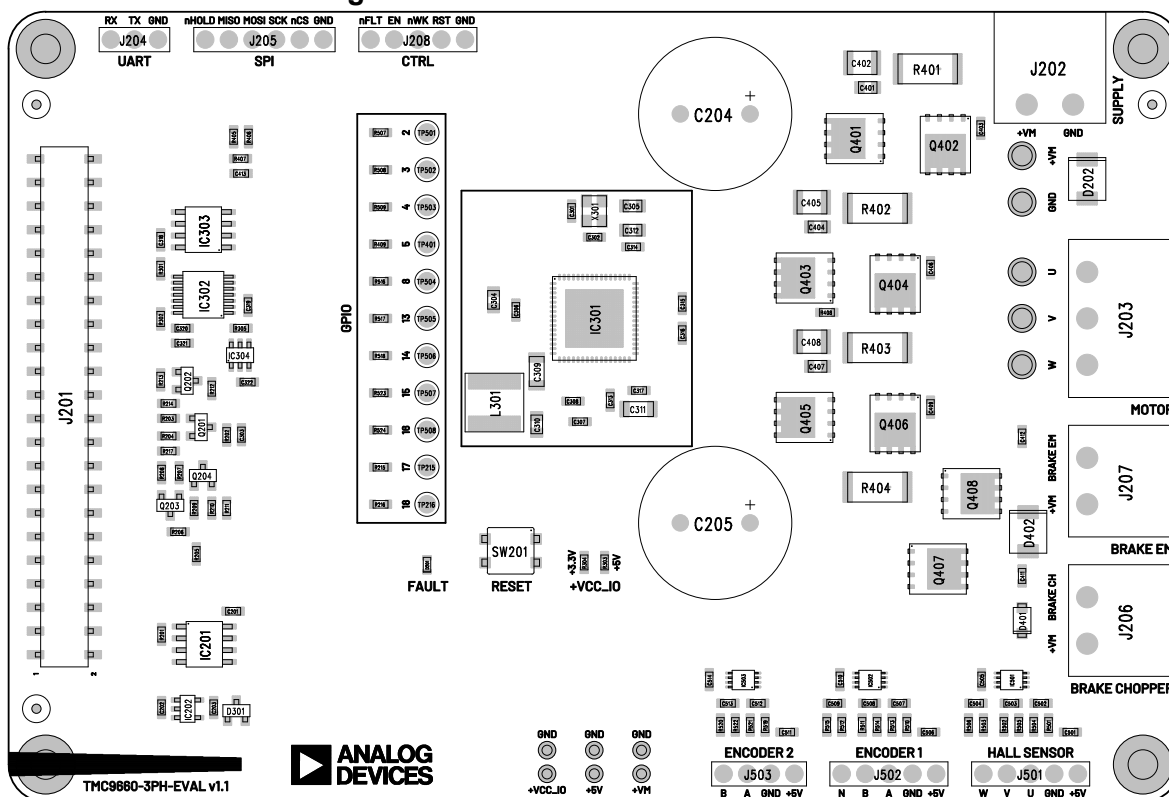

Figure 5. TMC9660-3PH-EVAL Component Placement and Silkscreen
2. Plug the selected motor to the Connector J203, labeled as *MOTOR* on the board's silkscreen (see Figure 5). Observe the correct order of the U, V, and W motor phases.
3. Plug the selected position feedback mechanism to the pin header J501, J502, or J503, labeled as *HALL SENSOR*, *ENCODER 1*, and *ENCODER 2**, respectively, on the board's silkscreen (see Figure 5). At least one position feedback mechanism is required, however, the three of them can be plugged and used simultaneously. However, note that of the ABN Encoders only ABN Encoder 1 can be used for motor commutation, while either of ABN Encoder 1 or Encoder 2 can be used for velocity or position feedback.
5. Plug the power supply cable to the Connector J202, labeled as *SUPPLY* on the board's silkscreen (see Figure 5). Make sure the power supply is off before connecting it to the board and that the polarity is correct.
The TMC9660-3PH-EVAL has one power, one motor, and two brake connectors and six pin headers. These can be found in the component placement drawing in Figure 5 and are described in detail in the following table.
In addition to the connectors shown in Table 1, some unpopulated THM test points are available in the TMC9660-3PH-EVAL. See the component placement drawing in Figure 5. The additional connectors are described in the following table.
The TMC9660-3PH-EVAL includes a push button (SW201) labeled as *RESET* on the board's silkscreen, as seen in the component placement drawing in Figure 5. This button is tied to the RESETN pin of the TMC9660 and includes a 12kΩ pull-up resistor referenced to the 5.8V line, that is, the output of the TMC9660 internal buck regulator.